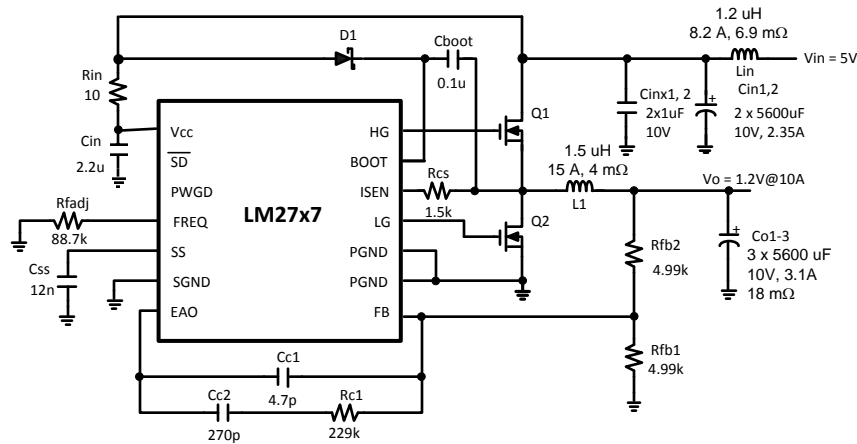
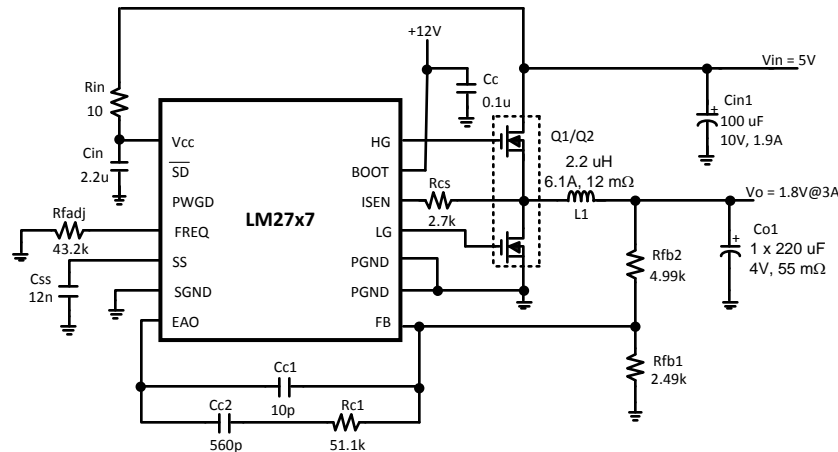

Figure 26. 5V to 1.2V, 10A, 300kHz
Figure 27. 5V to 1.8V, 3A, 600kHz
The following is a design procedure for all the components needed to create the circuit shown in Figure 26 in the Example Circuits section, a 5V in to 1.2V out converter, capable of delivering 10A with an efficiency of 85%. The switching frequency is 300kHz. The same procedures can be followed to create the circuit shown in Figure 26, Figure 27, and to create many other designs with varying input voltages, output voltages, and output currents.
The  $C_{\text{inx}}$  capacitors are high frequency bypass devices, designed to filter harmonics of the switching frequency and input noise. Two 1 $\mu\text{F}$  ceramic capacitors with a sufficient voltage rating (10V for the Circuit of Figure 26) will work well in almost any case.
The following shows an efficiency calculation to complement the Circuit of Figure 26. Output power for this circuit is  $1.2V \times 10A = 12W$ .
The example circuit of Figure 27 has been designed for minimum component count and overall solution size. A switching frequency of 600kHz allows the use of small input/output capacitors and a small inductor. The availability of separate 5V and 12V supplies (such as those available from desk-top computer supplies) and the low current further reduce component count. Using the 12V supply to power the MOSFET drivers eliminates the bootstrap diode, D1. At low currents, smaller FETs or dual FETs are often the most efficient solutions. Here, the Si4826DY, an asymmetric dual FET in an SO-8 package, yields 92% efficiency at a load of 2A.
**Table 3. Bill of Materials for Circuit of Figure 26**
**Table 3. Bill of Materials for Circuit of Figure 26 (continued)**
**Table 4. Bill of Materials for Circuit of Figure 27**